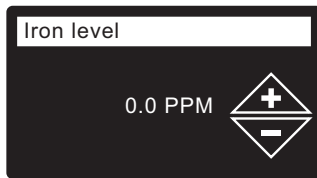

FIG. 22
23. **IRON LEVEL** Press the UP (▲) or DOWN (▼) buttons to set the value for iron in your water (See Figure 22).